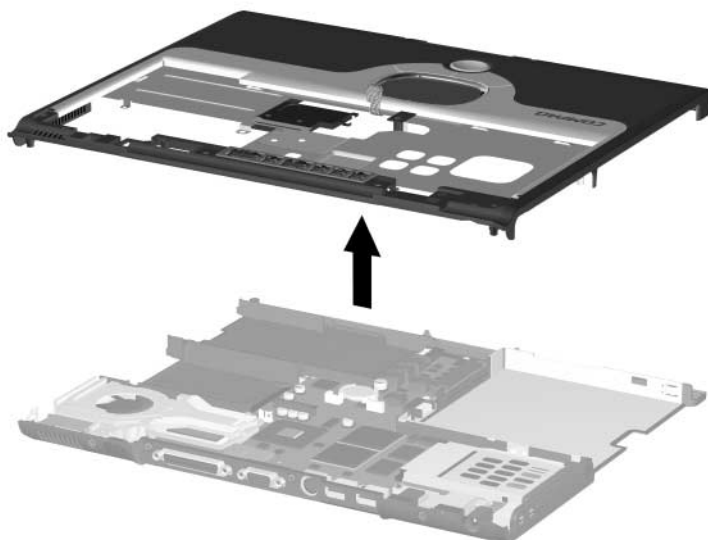

Figure 5-24. Removing the Top Cover
10. Remove the top cover (Figure 5-24).